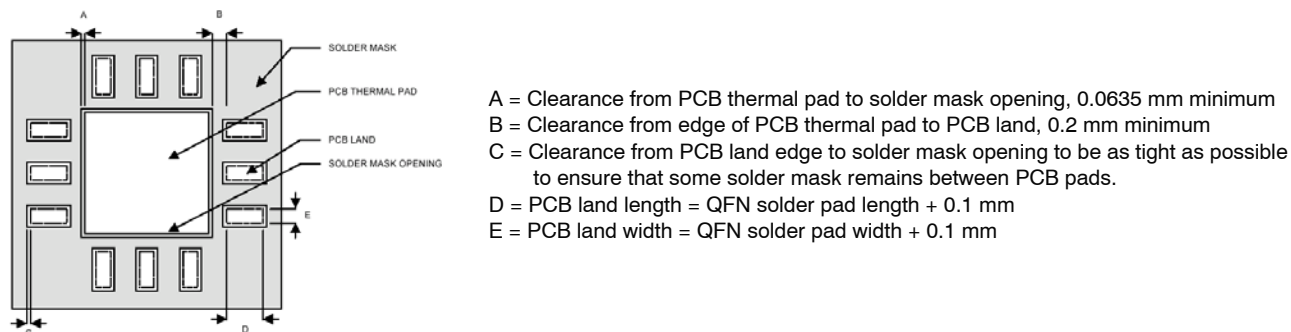

Figure 25. PCB Land and Solder Mask Recommendations
1. PCB land and solder masking recommendations are shown in Figure 25.